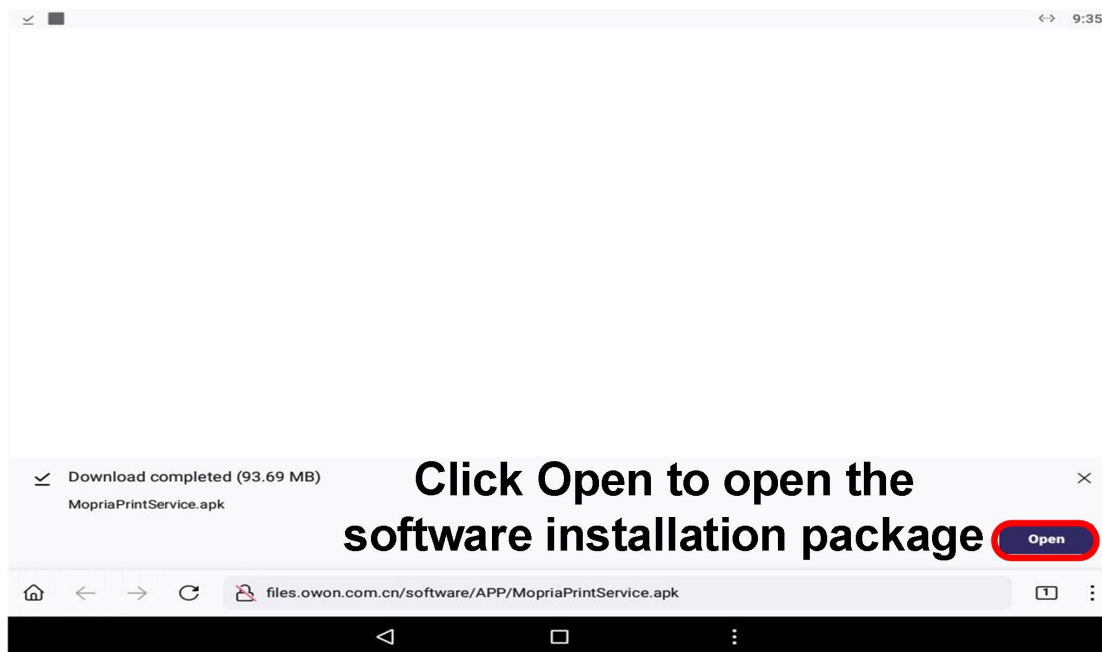

Figure 2
② Click **Open** to installation package, as shown in Figure 2.